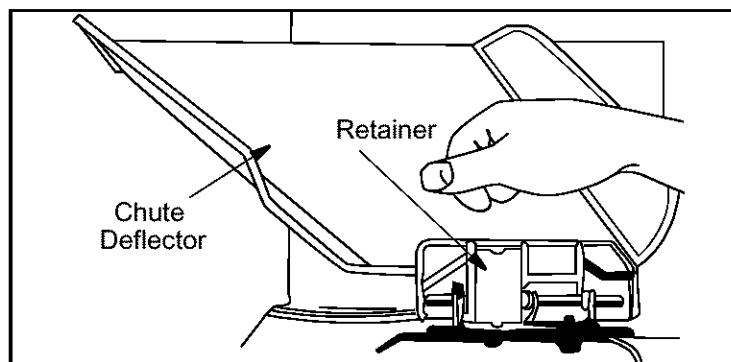

Figure 6
- Remove the retainer and carefully lower the chute into operating position, keeping fingers out of the way. See Figure 6.